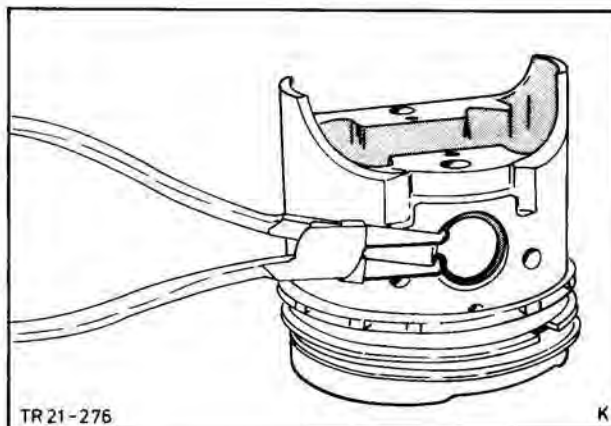

Fig. 215. Fit circlip
3. Fit a new circlip in piston ring bore on one side of piston, Fig. 215.